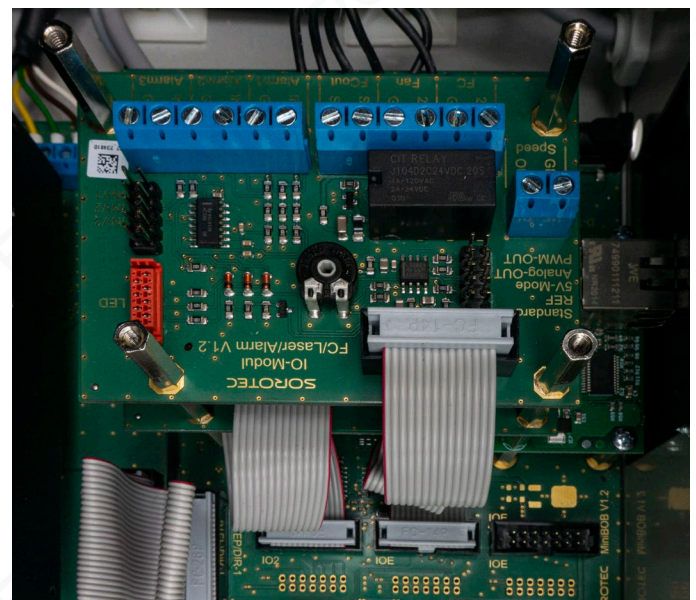

Fig. 38: MC IO-Module Speed installed and connected
- Mount the MC IO-Module Speed in its place above the standard MC IO-Module Basic using the spacer sleeves supplied. See Fig. 38.